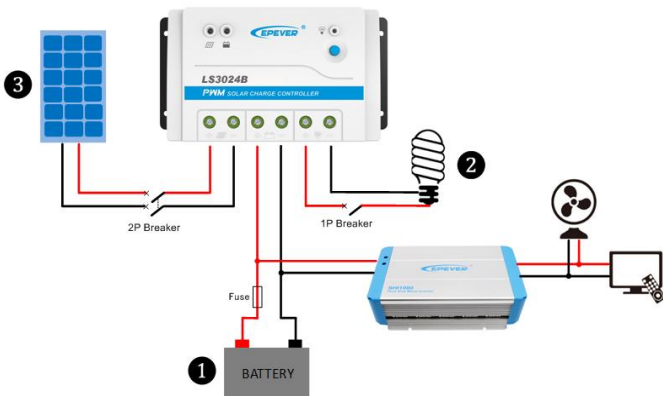

Figure 2 Connection diagram
Connect the system in the order of ① battery → ② load → ③ PV array as shown in figure 2 and disconnect the system in reverse order ③ ② ①.